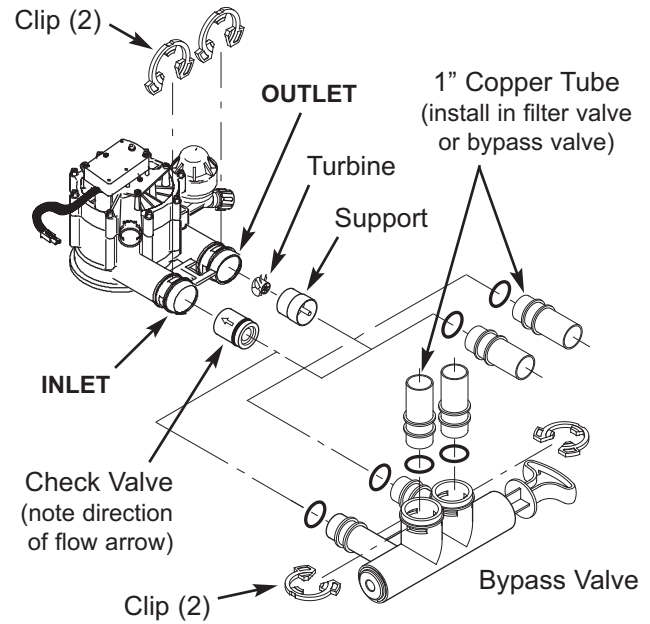

FIG. 9
- c. Make sure that the check valve is in place in the valve inlet, with the flow arrow pointed inward, as shown in Figure 9.